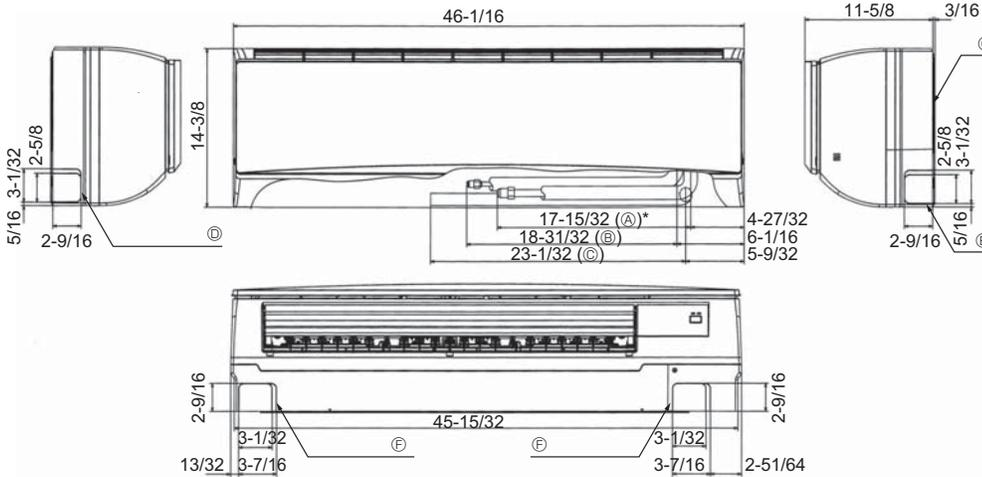

Fig. 4-2
- (C) Apply refrigerating machine oil over the entire flare seat surface.
- (D) Use correct flare nuts meeting the pipe size of the outdoor unit.
4.3. Positioning refrigerant and drain piping (Fig. 4-2)
- (A) Gas pipe * Indicates the condition with accessories mounted.
- (B) Liquid pipe (C) Drain hose
- (D) Left-side piping knockout hole (E) Right-side piping knockout hole
- (F) Lower piping knockout hole (G) Mount board (H)